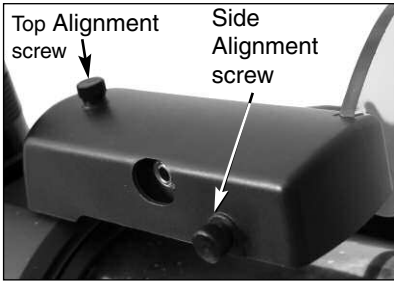

Fig. 33: The LNT Module, with alignment screws and Atomic Time Update port visible.
1. Remove the top alignment screw cap/long bolt from the LNT Module. See **Fig. 33**.
2. Remove the side alignment screw cap/long bolt from the LNT Module. Take note that there are two springs inside the LNT. One spring sits between the top and bottom of the unit. The second spring is on the side of the unit that rests between the bottom and the top sections. One long bolt passes through the top spring and the other long bolt passes through the side spring. Set the springs aside as you will need to replace it later in this assembly. See **Fig. 33 and 34**.